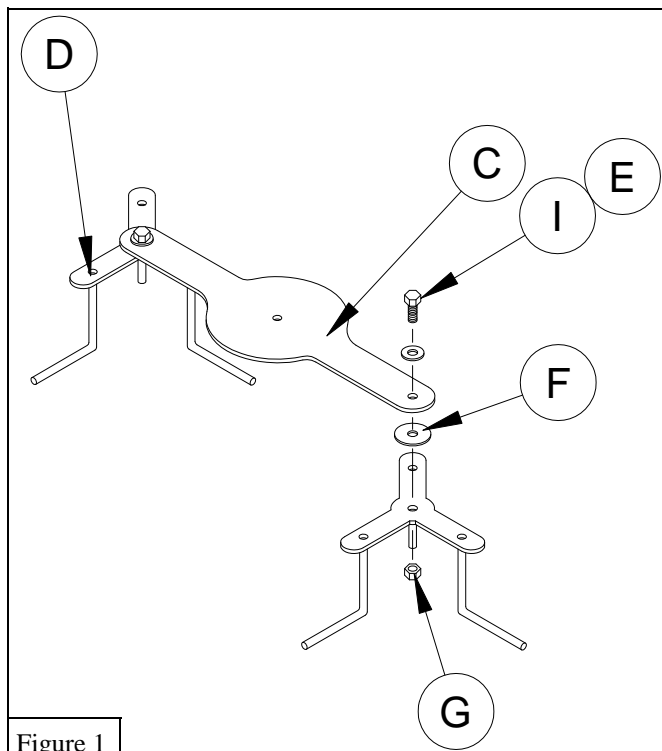

Figure 1
1. Using a 1/2" x 1" Hex Bolt (E), 1/2" Flat Washer (I), Plastic Washer (F), and a 1/2" Nylock Nut (G) assemble the Net Winding Racks (D) to the 2 Net Carousel (C). See Figure 1.